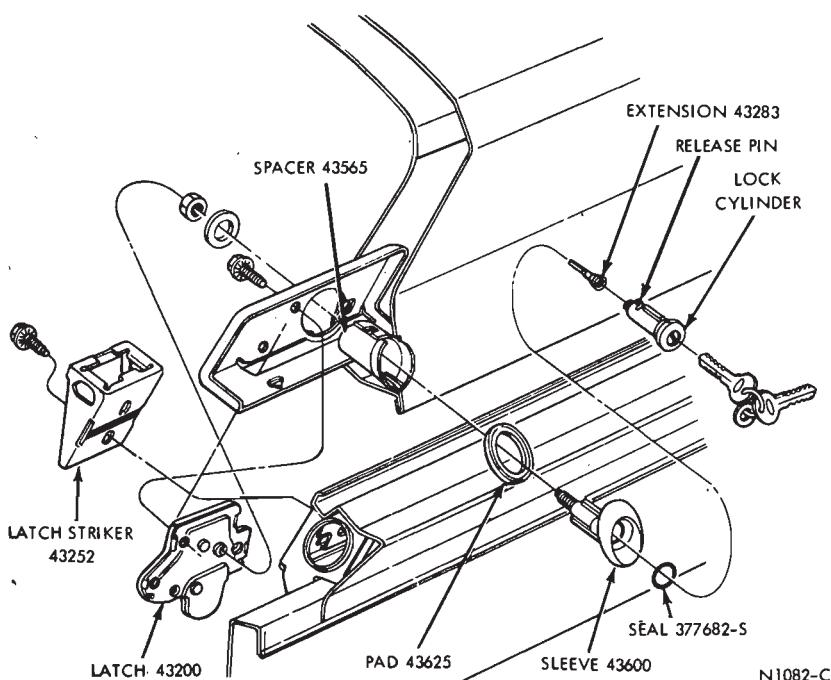

FIG. 15—Luggage Compartment Latch Installation—Falcon
1. Open the luggage compartment door and depress the lock cylinder release pin (Fig. 15) and pull the lock cylinder from the sleeve and cover.
4. Insert the lock cylinder and extension into the sleeve and cover, making sure the extension is inserted into the slot of the latch (Fig. 15).